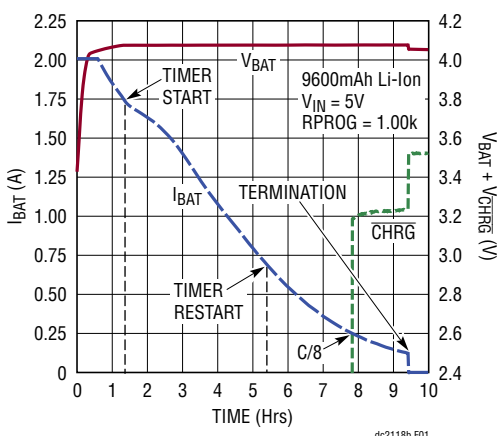

Figure 1. Typical Battery Charge Cycle
6. The  $\overline{\text{CHRG}}$  LED will toggle off when the charge current has dropped below 250mA. The timer will continue to run and charging will continue until the timer period ends. Multiple timer periods may be necessary to fully charge a large capacity battery, such as the one used to obtain Figure 1.